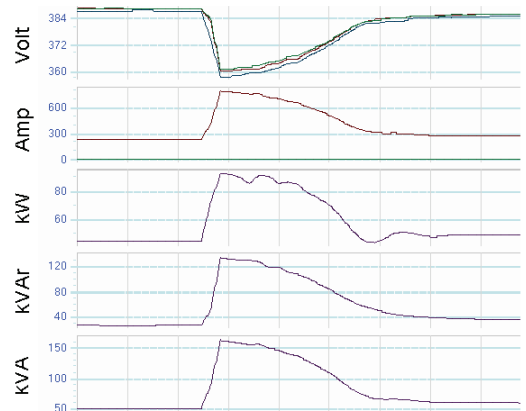

Figure 7: Typical dip at MCC
Figure 7 shows the voltages, currents, kW, kVAR and kVA trends of a typical dip at the MCC (4) which allows for deeper investigation. It clearly shows that the dip is caused by a motor startup, and it can easily be compensated for by using the Elspec Equalizer – the world's fastest reactive power compensation system. However, since these dips occur every few minutes, it is not likely the source of the repetitive failures. Moreover, similar failures occur at locations where the dips are significantly smaller.